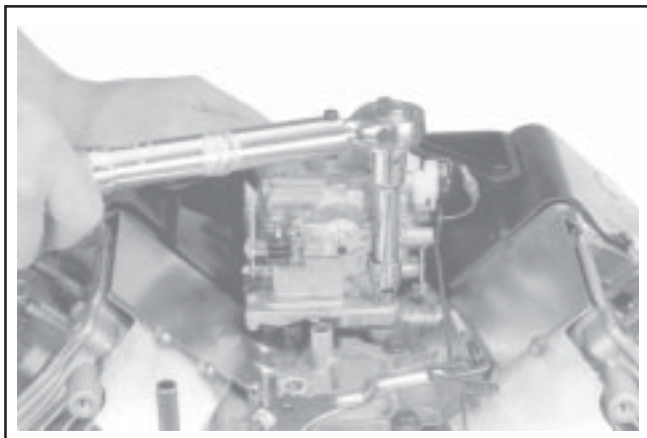
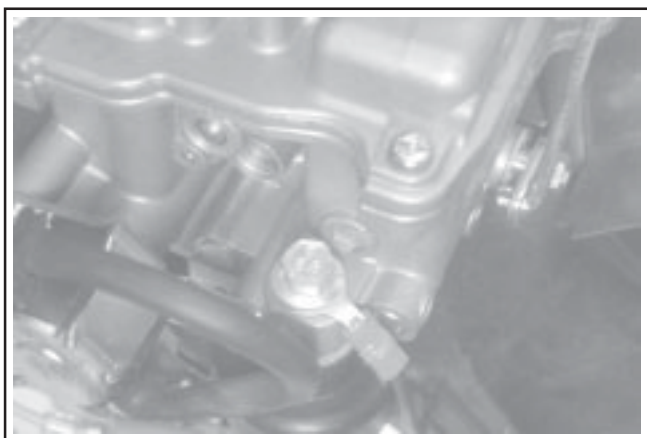

Figure 11-76. Installing Carburetor Assembly.
Figure 11-77. Ground Lead on Carburetor Mounting Screw (One-Barrel Carburetor).
- Install the carburetor, throttle linkage and governor lever as an assembly. See Figure 11-76. If a plastic intake manifold is used and the carburetor is equipped with a fuel solenoid, attach the ground lead to the carburetor mounting screw. See Figure 11-77.